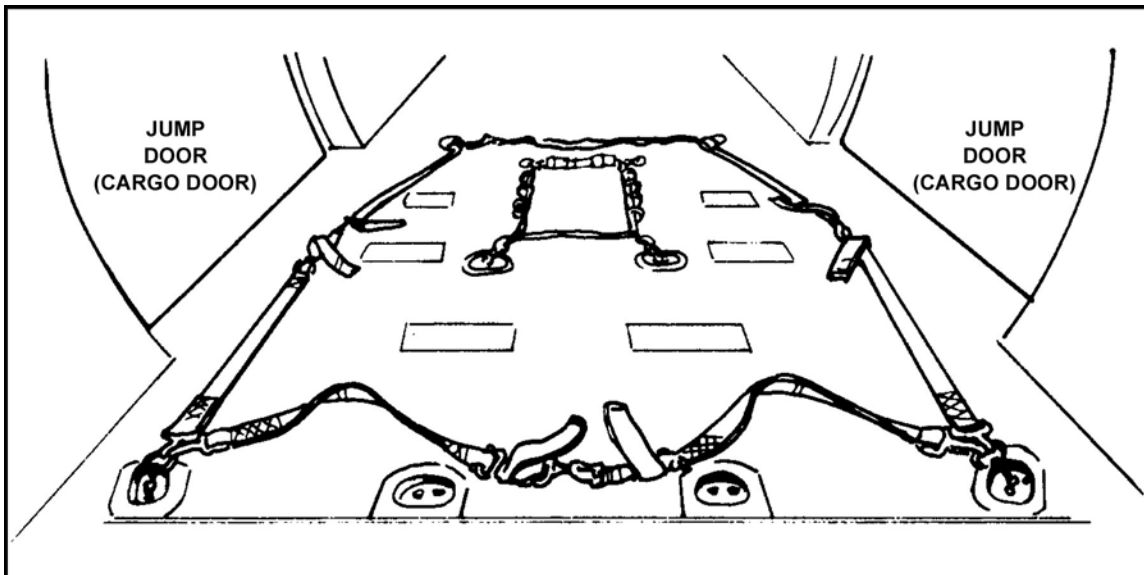

Figure 17-7. UH-60A compartment prepared for jumping.
a. **Preparation.** To prepare the UH-60A for jumping, adhere to the following procedure (Figure 17-7):